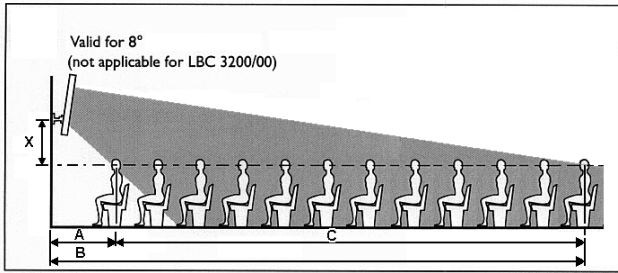
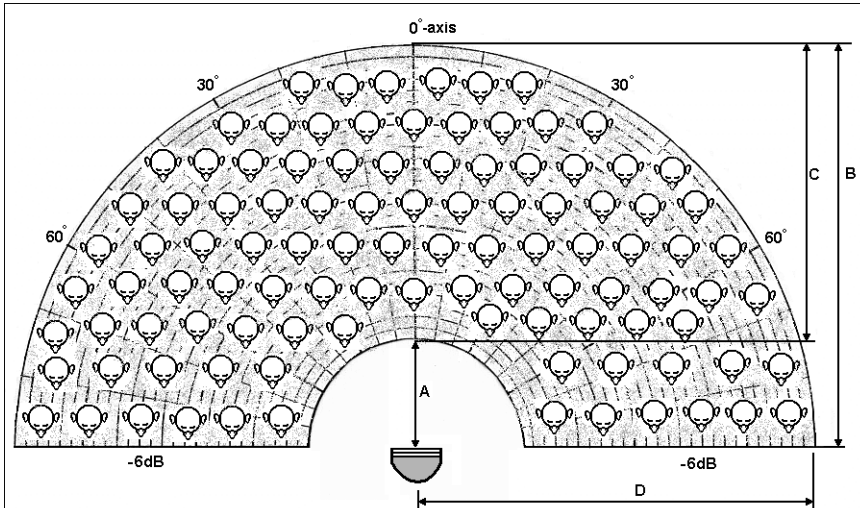
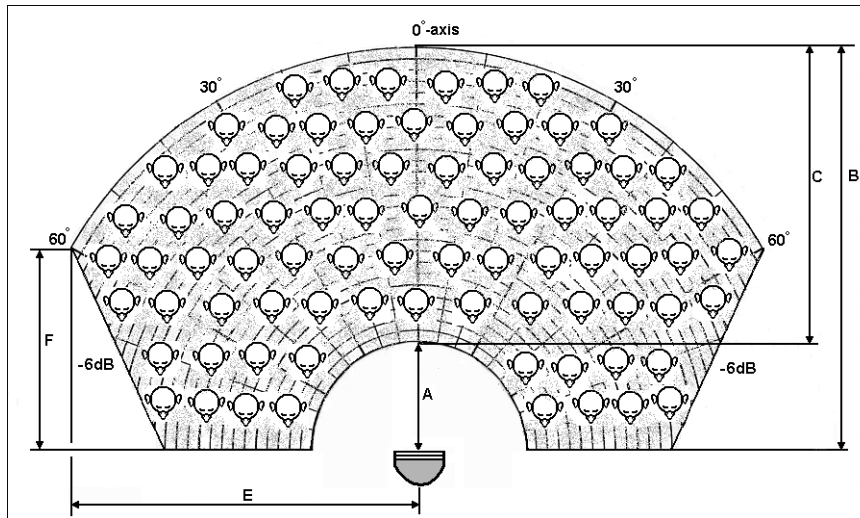

Figure 1: side view of loudspeaker array radiation and listening plane
Figure 2: 1kHz octave shape of the loudspeaker array
Figure 3: 4kHz octave shape of the loudspeaker array
1. Determine the dimensions of the desired 'listening area' (a horizontal plane at the level of the listeners' ears – refer to the dashed line in figure 1).
2. Measure the maximum distance from loudspeaker array to the last listener in the listening area (corresponding to 'B' in figures 1, 2 and 3).
3. Refer to diagram 1, and trace upwards from the maximum distance on the horizontal axis. From the vertical intersection with diagonal B-line, you go horizontal to the vertical axis. The X-value (height of loudspeaker array mounting bracket above the listening plane, 'X' in figure 1) is standing on this axis. The horizontal intersections with other diagonal lines provide information about the dimensions of the listening area. These numbers are related to figures 2 and 3 (see also example below).
4. Figure 2 shows the 1kHz octave shape radiated by the loudspeaker array and figure 3 shows the 4kHz octave shape radiation. The listening area with the optimal acoustic performance is in these shapes. Ensure the 4kHz shape with the dimensions obtained using diagram 1 adequately covers the desired listening area.